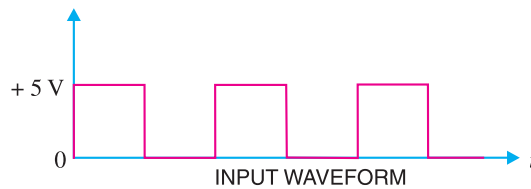
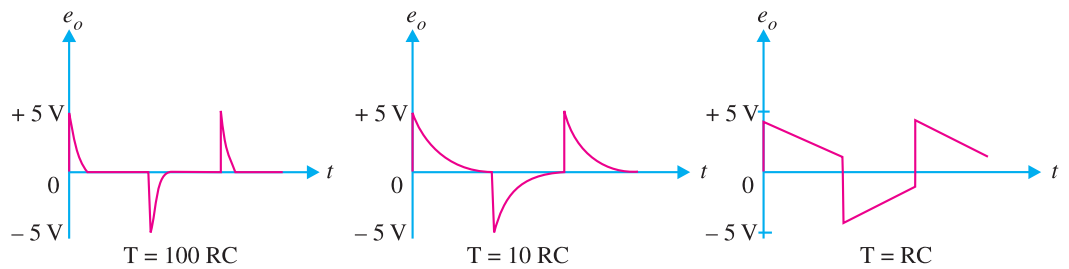

Fig. 18.21
Fig. 18.22
**(ii) Square wave input.** Fig. 18.21 shows the input square wave fed to a differentiating circuit. Fig. 18.22 shows the output waveforms for different values of time period of the input wave.